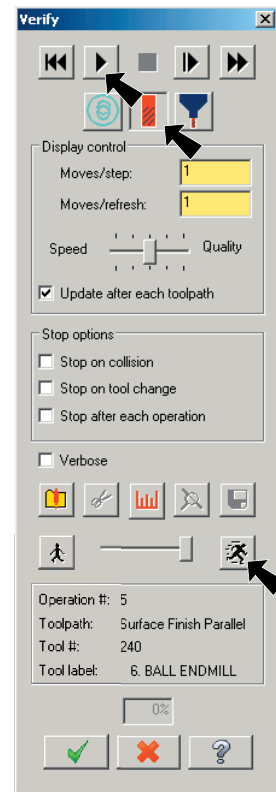

Fig. 26
Step 3. Click the **Play**  in the Verify dialog box to start the machining, **Fig. 26**.